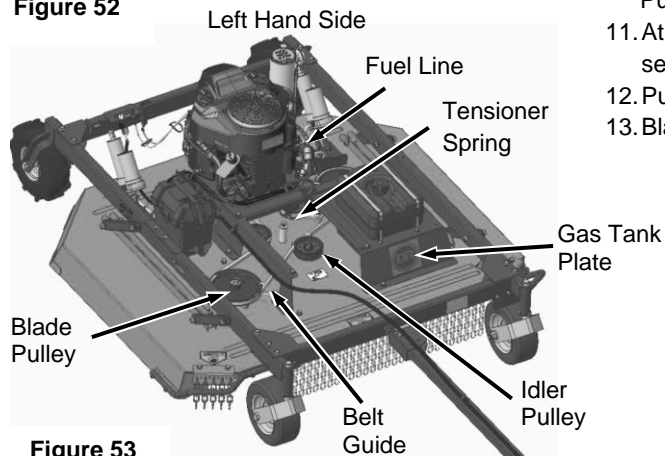

Figure 53
5. Carefully lift Gas Tank Plate and position it on the Left side of machine (**Figure 53**). Leave enough space to access the Blade Pulley.